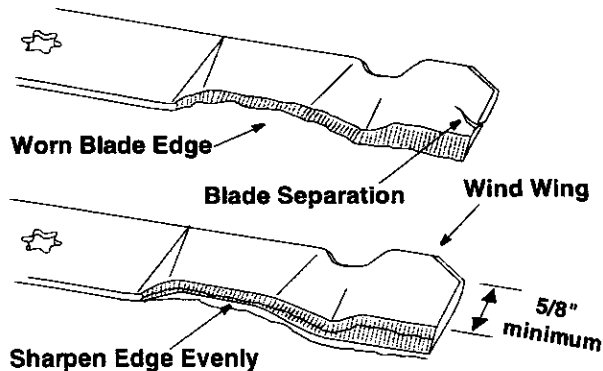

Figure 23
To properly sharpen the cutting blades, remove equal amounts of metal from both ends of the blades along the cutting edges. See Figure 23.
Sharpen the cutting edge straight across, parallel to the trailing edge, at a 25° to 30° angle. See Figure 23.
**IMPORTANT:** If the cutting edge of the blade has already been sharpened to within 5/8" of the wind wing radius, or if any metal separation is present, replace the blades with new ones. See Figure 23.